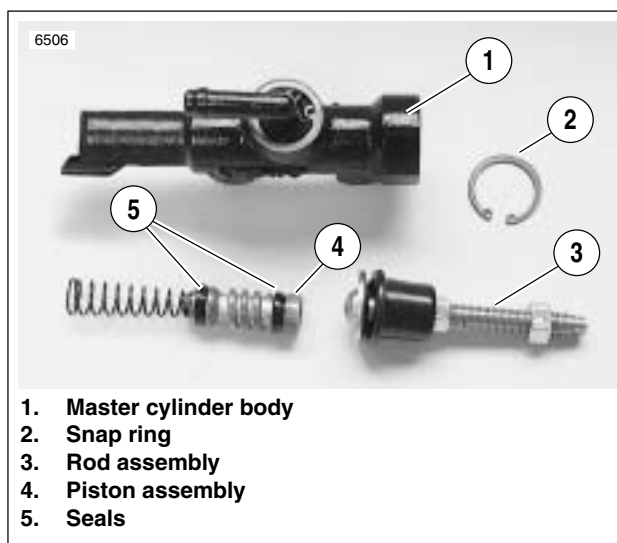

Figure 2-53. Master Cylinder Internal
1. See Figure 2-53. Slide rubber boot on rod assembly (3) away from master cylinder body (1).
2. Depress rod assembly (3) and remove internal snap ring (2). Discard snap ring.
3. Remove piston assembly (4) from master cylinder body (1).
4. Loosen adjuster locknut on the rod assembly (3).
5. Remove the clevis from the rod assembly (3).
2. See Figure 2-53. Assemble **new** piston components placing small end of spring behind primary seal of piston (4).
3. Lubricate master cylinder body (1) and piston seals (5) with **D.O.T. 4 BRAKE FLUID**.
4. Place round side of rod assembly (3) over piston. Depress piston (4) into master cylinder body (1) and secure with a **new** snap ring (2).